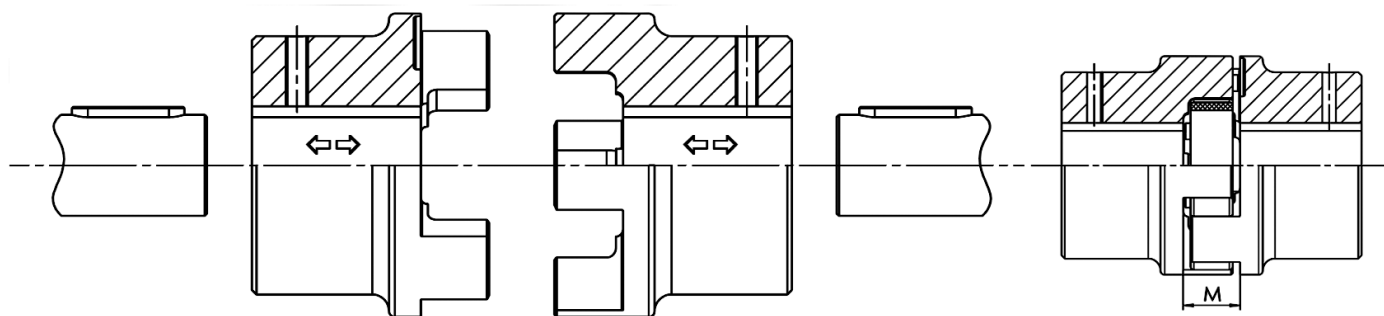

Figure 4-2 - GRMP: mounting
- Install the hubs on the driving and driven shafts (see FIGURE 4-2 - GRMP: mounting)
- Check the driving and driven hub to achieve the value **M** (see FIGURE 4-2 and TABLE 4.1)